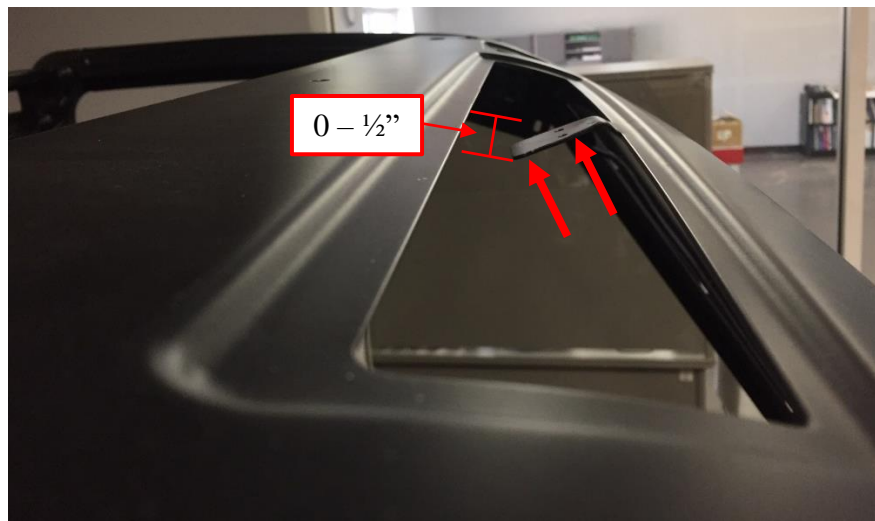

Figure 7: Mirror bracket bent out of the way.
4. Bend the rear-view mirror bracket upwards with a pair of pliers or vice-grips, so that it does not interfere with the lid of the *Audio Mini*. The bottom of the bracket should be 0 - 1/2" below the lip of the visor. See Figure 7.